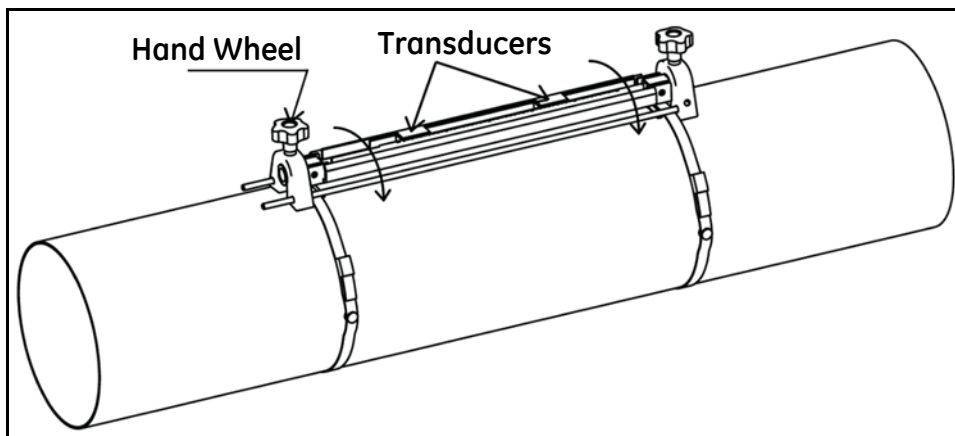

### Figure 11: 2 Traverse Installation with 1 Clamp-On Fixture
- c. Hold the fixture against the pipe and move the mounting straps onto the fixture. Then, tighten the screws on the straps, and verify that the straps remain in place on the fixture (see Figure 11 below).